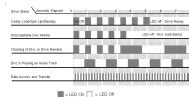

Figure B-2 CD-ROM Drive LED Status Indicators
- A *drive busy indicator LED* (located to the left of the eject button) blinks to indicate drive activity. The LED stays dark when no disc caddy is loaded in the drive. See Figure B-2 for details on blink patterns and the status they indicate for the drive.